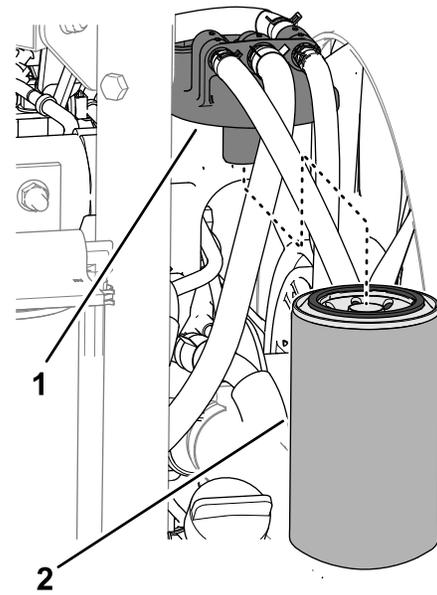

Figure 121
2. Clean the area around the fuel-filter head (Figure 121).
3. Remove the filter and clean the filter-head mounting surface (Figure 121).